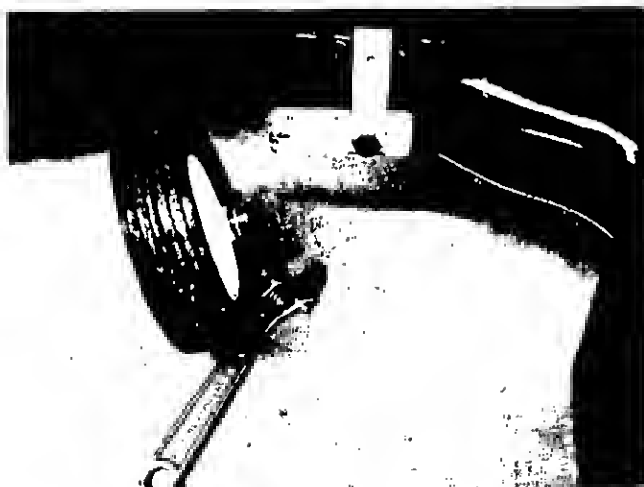

FIGURE 5.
1. Assemble the deck wheels to the pivot bars using the shoulder bolts and the Belleville washers. See figure 5.